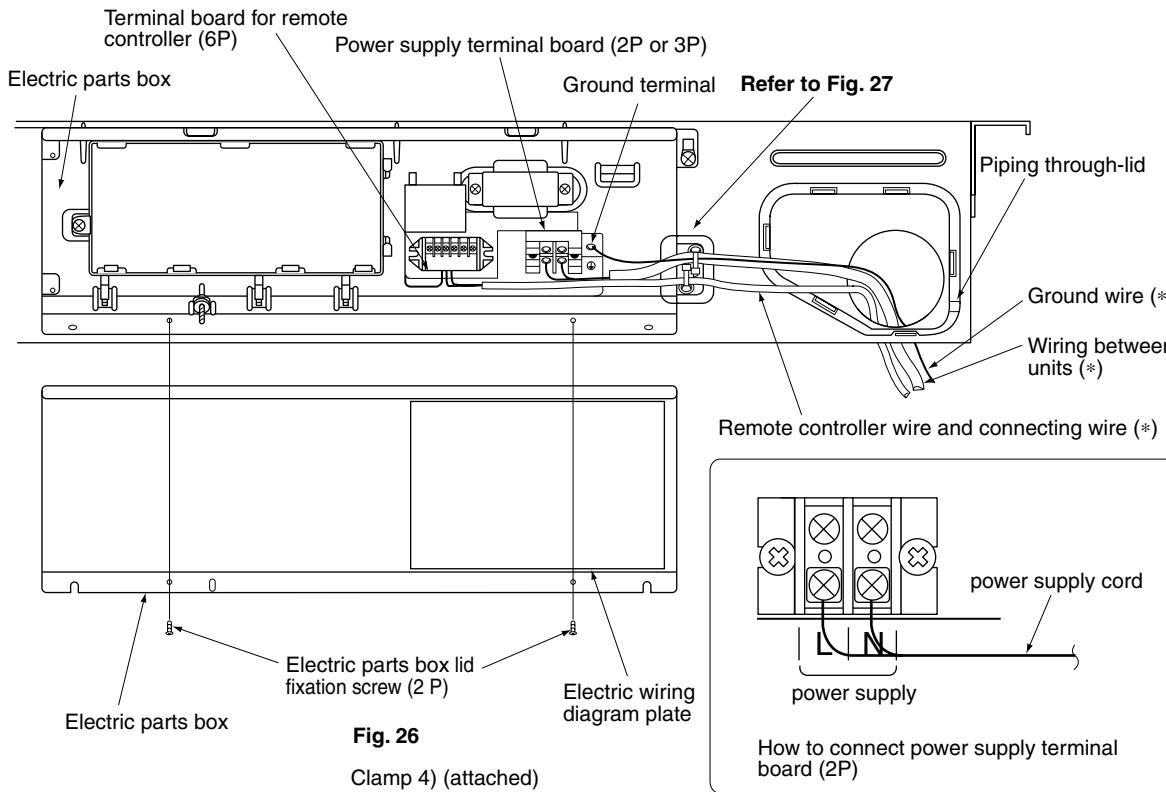

Fig. 26
⟨Method of wiring power supply, units and connecting remote controller cords⟩ (Refer to Fig. 26)
- Make sure to avoid external force to the field wiring(\*) such as by laying them in protection pipes or in the wall. (Refer to Fig. 26)